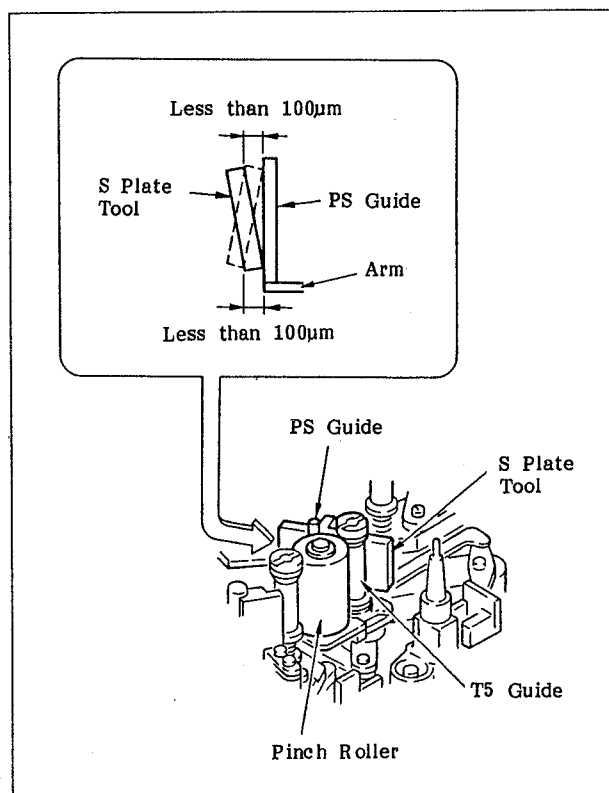

Fig. 6-115 Adjustment of the Tilting of the PS Guide
3. Place the S plate tool against the T5 guide, as shown in Figure 6-115, and make sure that any gap, which may occur at the top or bottom between the guide and the tool, is less than 100 $\mu$ m. If it is not, adjust it by pushing the top edge of the PS guide to bend the arm section.